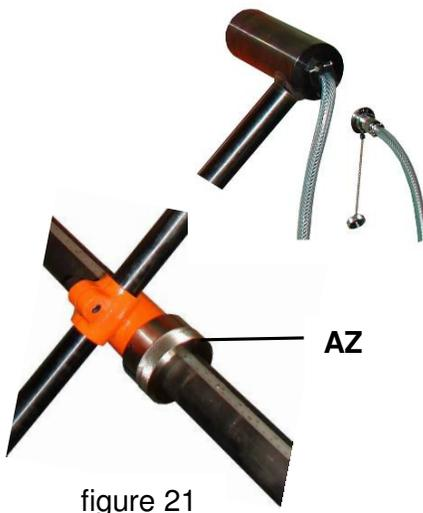

figure 21
- 2) Slip the sensor pipe into the fitting. (shown in fig. 21)